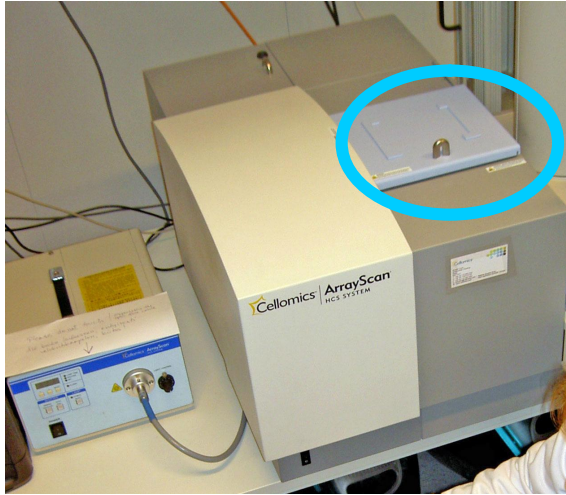

Figure 4. Lid of the scanning unit
3. Inserting the plate into ArrayScan instrument. In the main menu, select Tools/Maintenance/Move to load position. Wait until the calibration is finished. Open the blue lid on top of the ArrayScan instrument by gently pulling the small silver handle up (see Fig. 4). Take the 96-well plate that contains the samples (do not hold the plate at the bottom) and insert it without the lid into the plate holder (use the flashlight to see better). Make sure that A1 well is in the top left corner! The plate will feel loose but the instrument will secure it once you close the lid -just make sure that the plate is level.